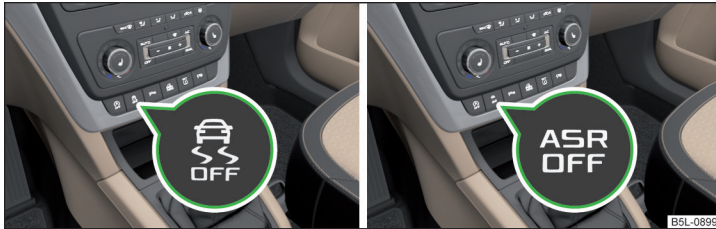

Fig. 131 System button: Vehicle with ESC / vehicle without ESC
- ▶ By pressing the  » Fig. 131 button.